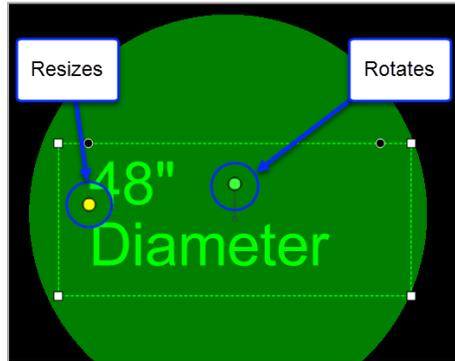

Figure 17.3 Text Box
- b) Adjust the size of font and the text box by using the yellow diamond as seen in Figure 17.3. Click on the diamond and drag with the mouse to resize: up to reduce, down to enlarge. You can also change the font size control in the properties bar.